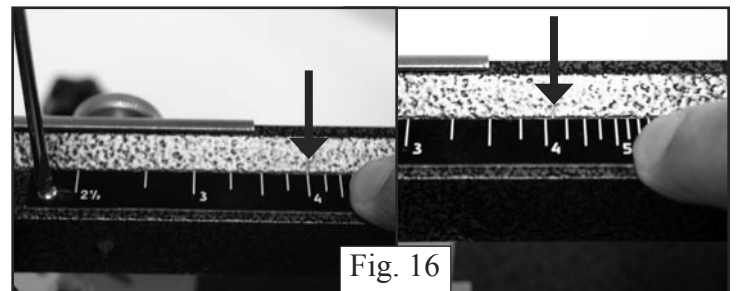

Fig. 16
8. To begin engraving, place the article onto the article-holding table. Hold the article in place using the brass pins. **Fig. 6**. Try to place the article as close to the center of the table as possible. The configuration of some article may be difficult to hold with the brass pins, if so, consider the holding assortment No. 157.401. **Fig.16**
In the event the machine does not engrave in a straight line, make the following adjustments: ***Fig. 16***